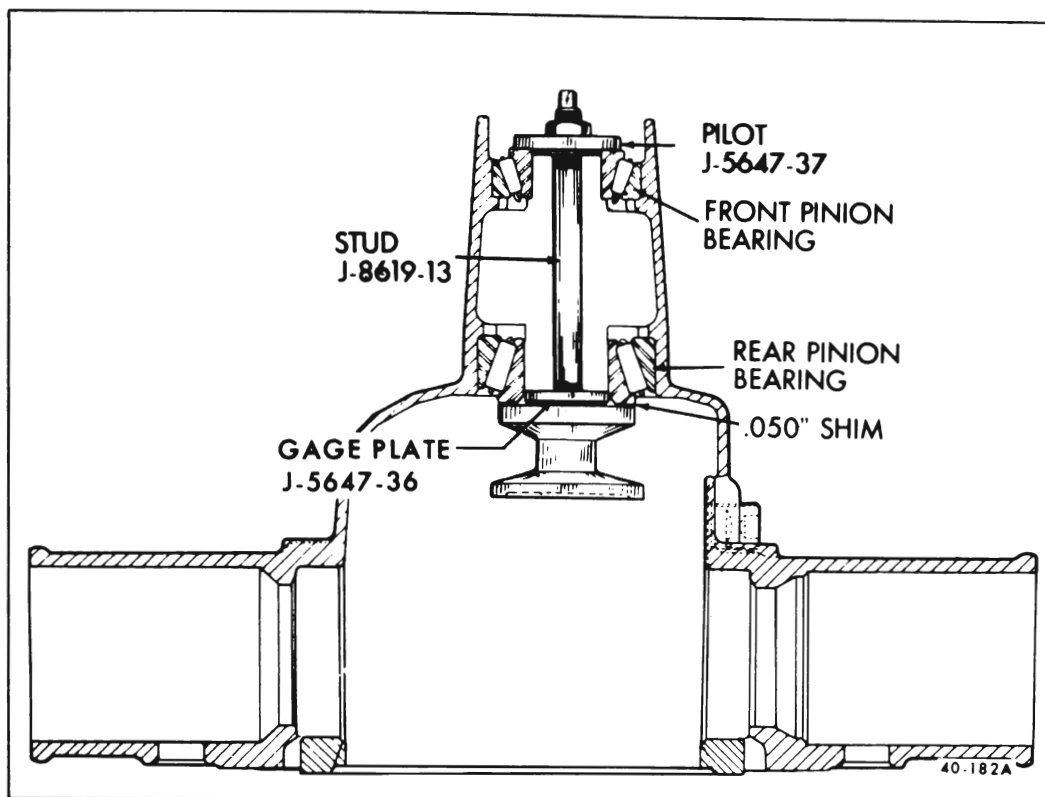

Figure 40-151 Installing Gage Plate In Carrier
2. Lubricate front and rear pinion bearings which will be used in final reassembly and position them in their respective races in the carrier. Thread Stud J-8619-13 into Gage Plate J-5647-36. With bearings held in place in races, install a 0.50" shim and gage plate and stud assembly on rear pinion bearing inner race. Install Pilot J-5647-37 on front pinion bearing with small diameter on raised portion of bearing race. See Figure 40-151.